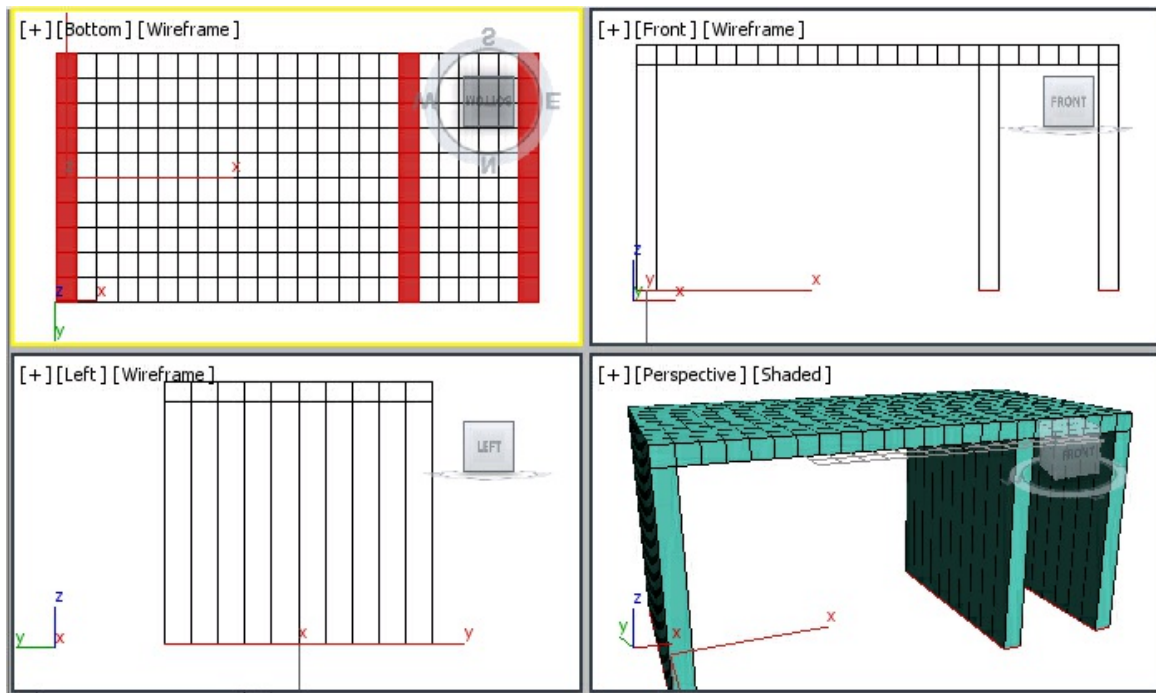

Figure 9-64 The selected polygons extruded
7. Set the value **110** in the **Height** spinner and choose the **OK** button; the selected polygons are extruded, as shown in Figure 9-64.